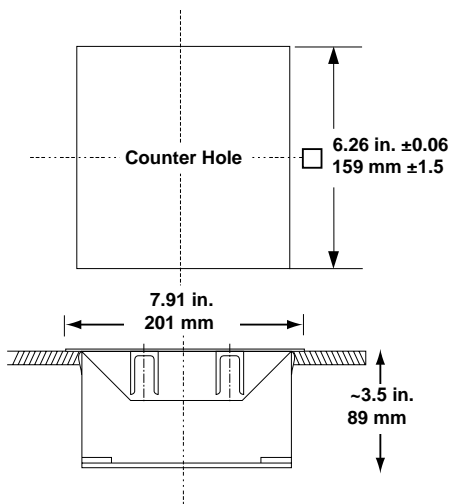

Figure 3. Standard Glass Option A
1. Cut a hole in the counter 6.26 in. (159 mm) square (Figure 3).